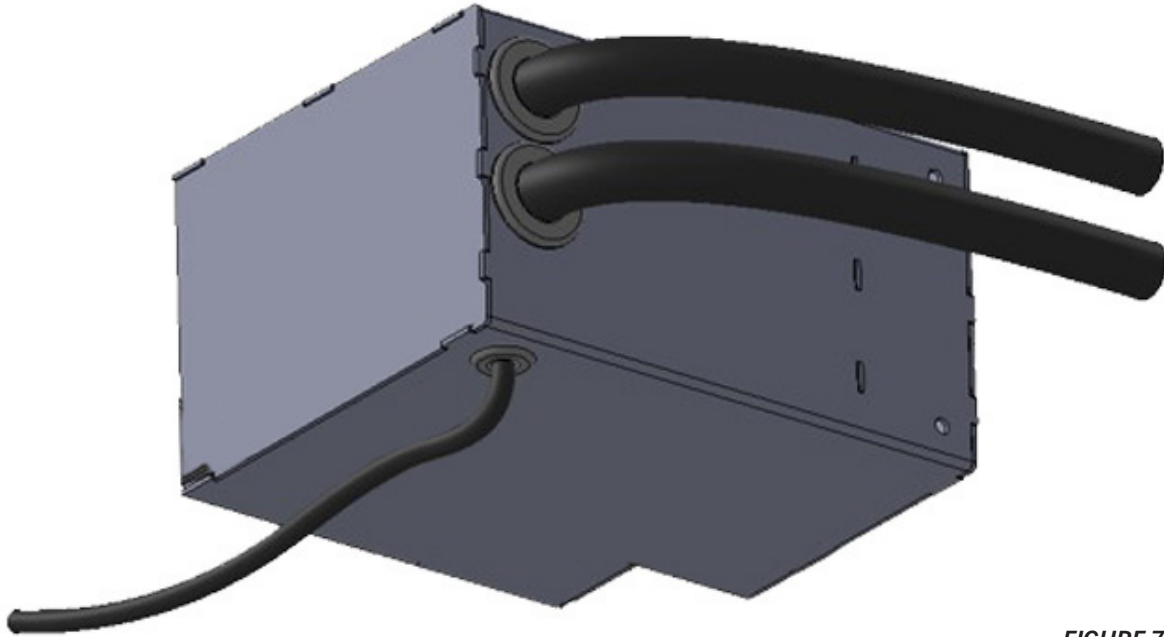

FIGURE 7
22. From the outside of the heater box, push 12" of the 38"- 5/8" radiator hose through the bottom hole and 12" of the remaining (approximately 13') radiator hose through the top hole. **FIGURE 7**